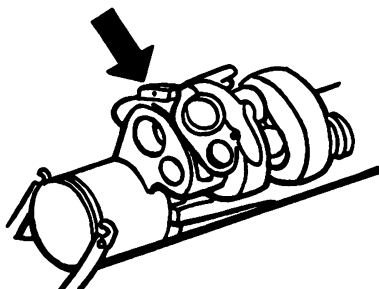

Figure 7.
7. Secure the tracker electrical receptacle cover to the tracker forward shock absorber (figure 7).